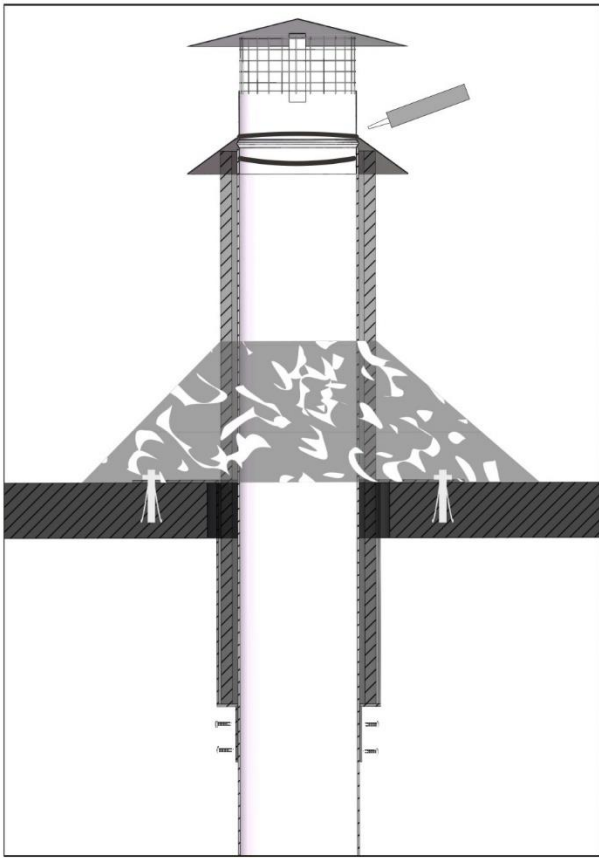

Figure 10
⑩ For the wooden roof, as figure 10. Double stack insulation ensures safer use. Flanges and chimneys are installed in the same way as above. Double insulated smoke pipes are inserted inside the flange. After installing the rain skirt and rain cap, cement the chimney and roof. Make it waterproof.